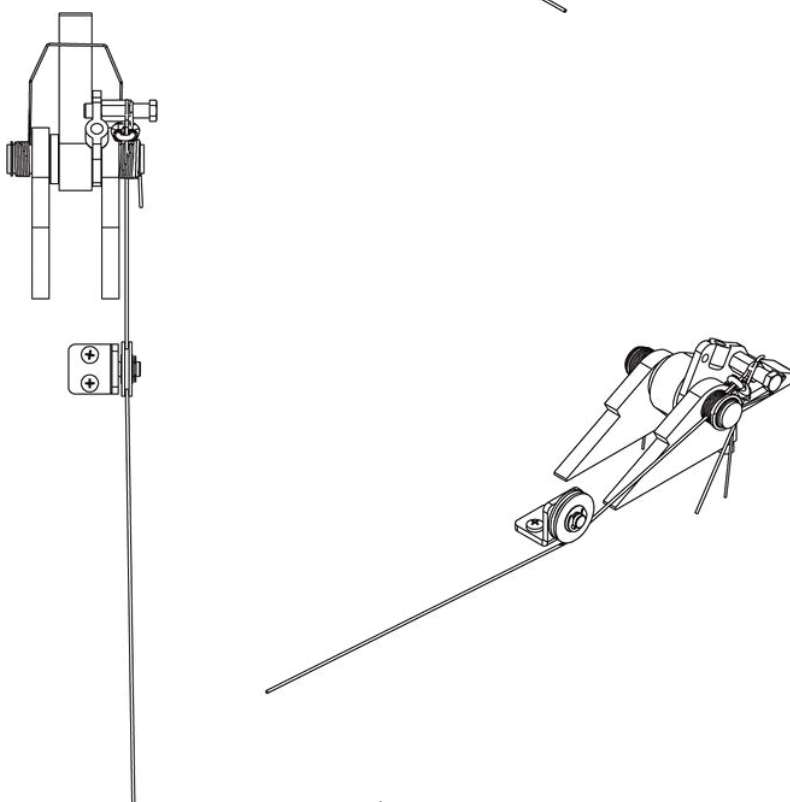

Fig 12
Step 8: Install Safety Lock Release Cable 1.The safety lock has been pre-installed. 2.Install safety lock release cable to connect the safety lock on the main column and vice column. (Fig 12) 3.Install safety lock cover. **NOTE: Press the single point lock release lever on the main column to check if this lever can release the mechanisms in both columns at the same time. Adjust the safety lock release cable adjustment screw if necessary until the lever can release the mechanisms in both columns at the same time.**